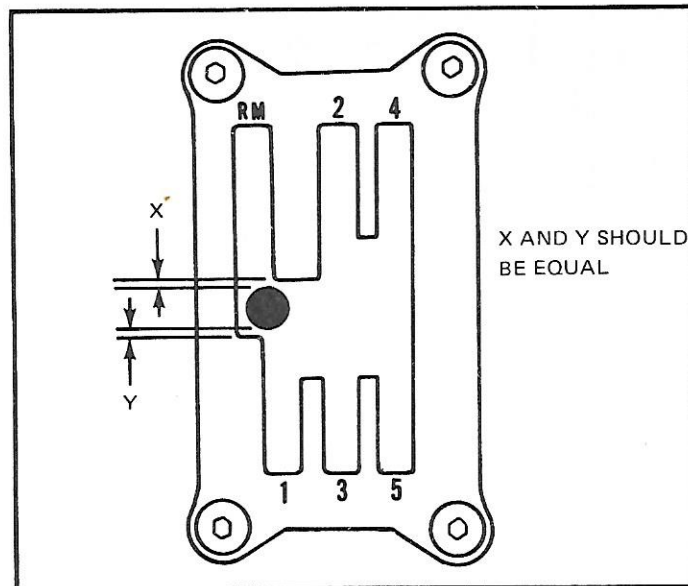

Fig. 2 – Article No. 14
4. Adjust the rod length by rotating turnbuckle until the gear shift lever is central in the gate between the reverse stop and 2nd gear divider (See Fig. 2).